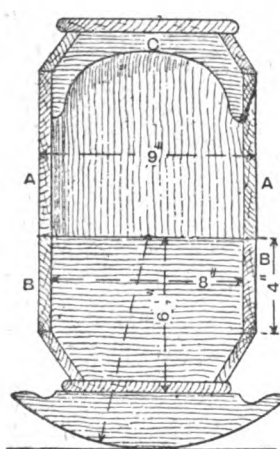
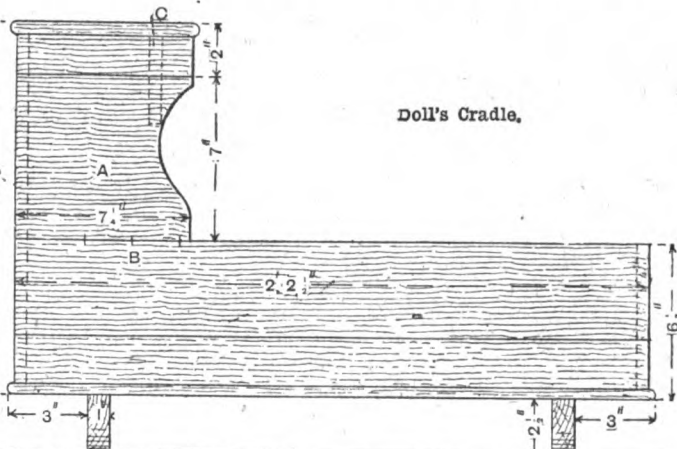

FIG. 1
FIG. 2
**Wooden Stands for Glass Shades.**—A form of copying lathe is generally employed for making wooden stands for oval and square glass shades, but if it is desired to make them by hand, the wood should be cut out and trued to size and, in the case of the oval stands, the edges trued with a spokeshave. A simple tool for cutting the groove for the shade is shown at Fig. 1. This tool is of hard wood, through which a mortise is made for the reception of two cutting blades—those used for cutting gauges are most suitable. A block of hard wood equal to
the width of the groove to be made is placed between the blades as shown at A (Fig. 1), the whole being held firmly in the mortise by the wedge, which may also be of hard wood. The distance from the fence B to the first blade must be equal to the distance of the groove from the edge. This cutting gauge or router, when used for the oval stands, should be worked along the quarter A to B (see Fig. 2), then along C to B, then C to D, and A to D. After working the blades down to the desired depth, the wood between the cuts can be removed with a sharp chisel. The moulding round the edge can be worked with a router, as shown at Fig. 3; this router can be filed from a piece of stout steel scraper. Iron or brass will be most suitable for the wedge of the router.
**Doll's Cradle.**—Fig. 1 shows the front elevation and Fig. 2 the side elevation of a doll's cradle. The wood
**Design for a Porch.**—The accompanying illustrations (Figs. 1, 2, 3, 4, and 5) show designs for a porch constructed
wholly of wood, and having a slated ornamental roof. The floor of the porch is tiled, the step at the entrance being checked at the back to receive them. A seat is placed on two sides of the porch (inside). Fig. 1 shows the front view, Fig. 2 the plan, Fig. 3 a detail of half the side, Fig. 4 a section through the eaves cornice, and Fig. 5 a section through the line A B (Fig. 3). The illustrations are sufficiently clear to explain themselves.